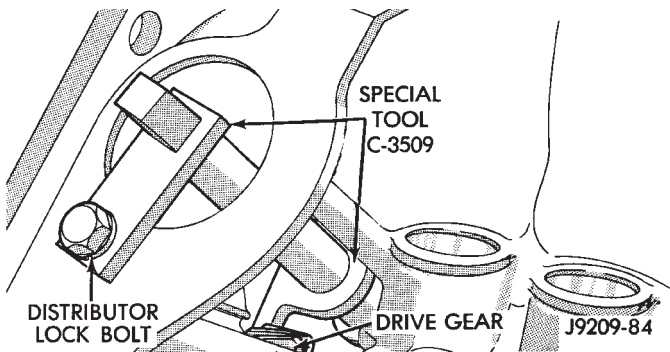

Fig. 32 Camshaft Holding Tool C-3509 (Installed Position)
- (1) Lubricate camshaft lobes and camshaft bearing journals and insert the camshaft to within 51 mm (2 inches) of its final position in cylinder block.
- (2) Install Camshaft Gear Installer Tool C-3509 with tongue back of distributor drive gear (Fig. 32).